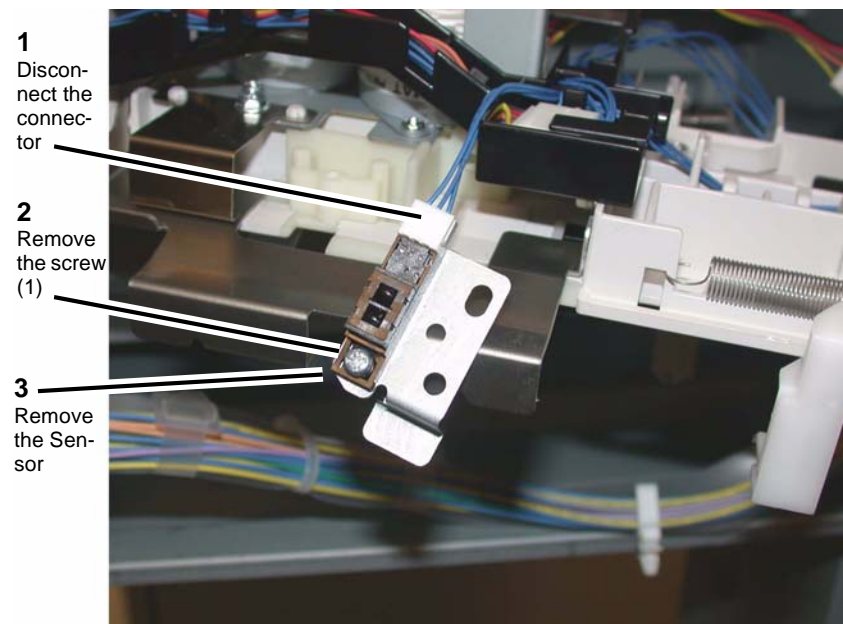

Figure 2 Removing the Compiler No Paper Sensor
5. Disconnect the connector (Figure 2).
6. Remove the screw (1) that secures the sensor.